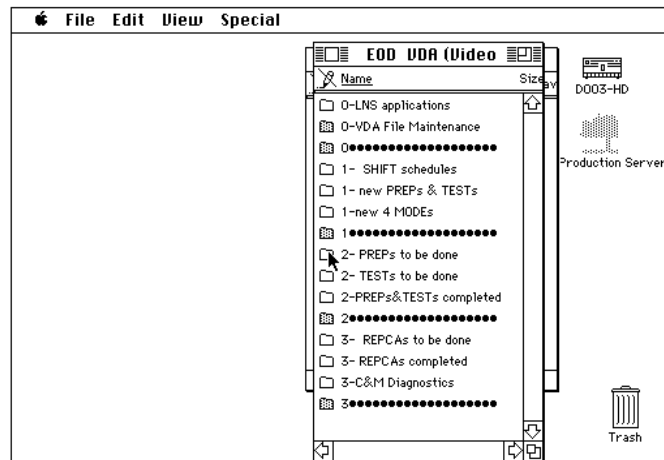

Figure 5
- 10.1 Position the mouse pointer on the "2-PREPS to be done" folder and double click to open it. See Figure 5.